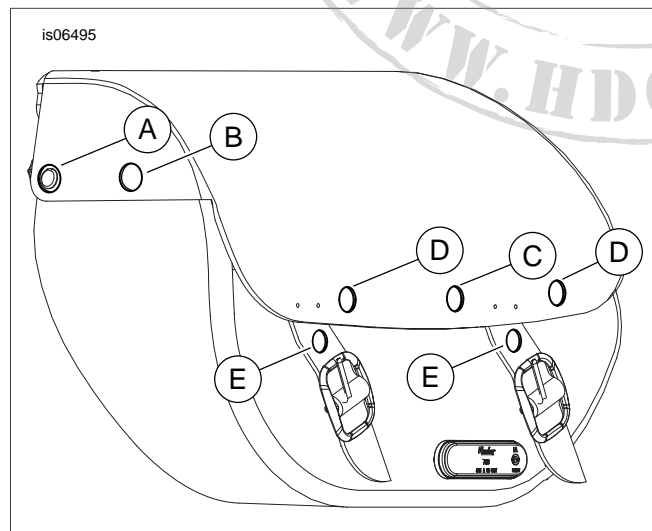

Figure 1. Choosing the Lock Location
1. See Figure 1. There are various locations where the lock can be installed: